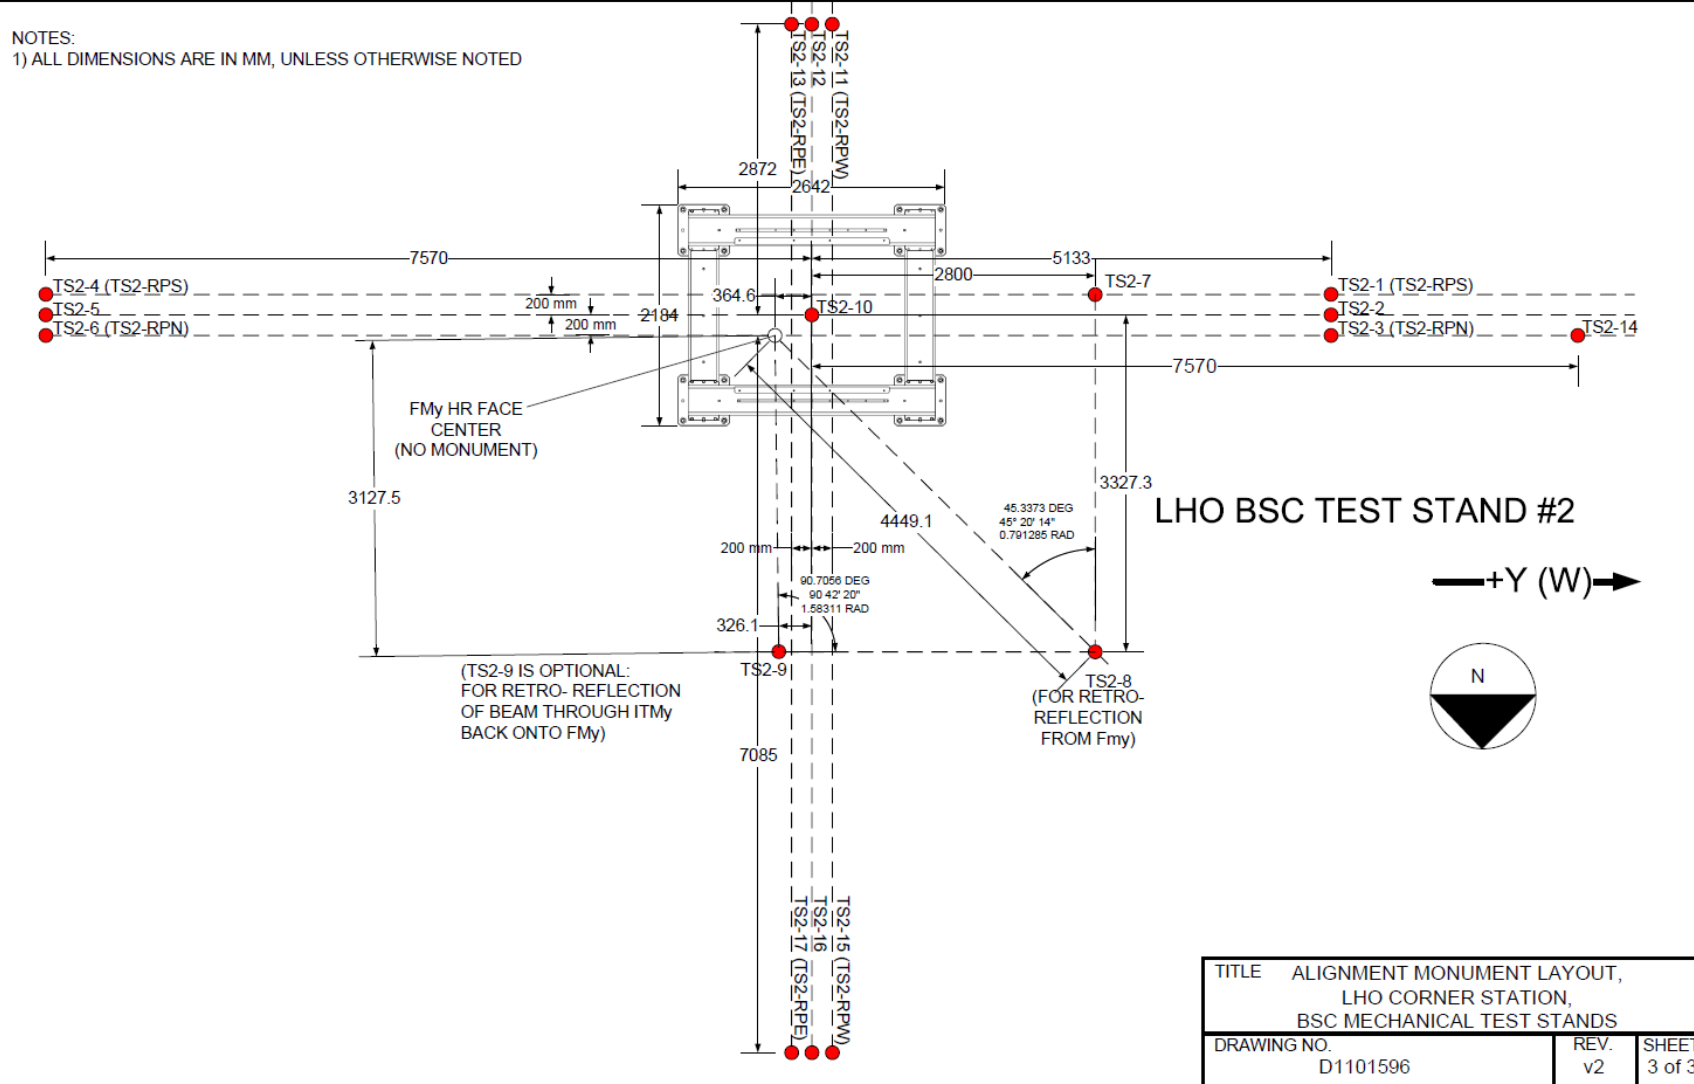

Figure 1: Monument Layout for Test Stand #2 (from D1101596)
- The features of the BSC mechanical test stand which interface to the BSC-ISI platform shall be used to establish a centerline and two offset lines with alignment monuments/references in the floor, as depicted in the D1101596 (see also Figure 1).
The reference monuments for the cartridge assembly on test stand 2 are given in D1101596, and in Figure 1 for convenience.